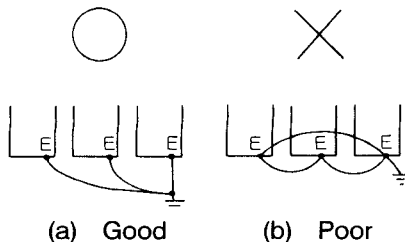

Fig. 11.6 Grounding of Three VS-626VM3 Units
(3) Make a positive grounding using ground terminal E on the casing of VS-626VM3.
- Where several VS-626VM3 units are used side by side, all the units should preferably be grounded directly to the ground poles. However, connecting all the ground terminals of VS-626VM3 in parallel, and ground only one of VS-626VM3 to the ground pole is also permissible (Fig. 11.6 (a)). However, do not form a loop with the ground leads (Fig. 11.6 (b)).